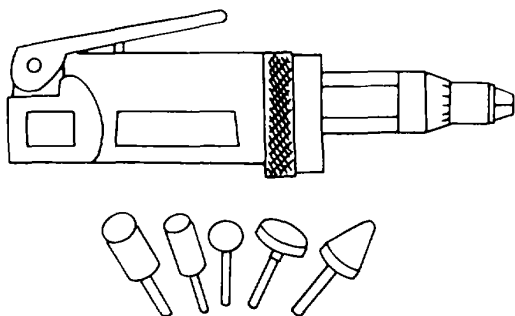

Figure 5-16. Pneumatic Grinder
- (4) Always hold the drill at right angles to the work regardless of the position or curvatures. Tilting the drill at any time may cause elongation of the hole.
*a. Types.* A typical pneumatic grinder is shown in figure 5-16. The grinders are rated by no-load speeds, which typically result in terms of light-, medium-, and heavy-duty loads being used to describe the grinder. The grinding stones come in numerous shapes and give versatility to the grinder.